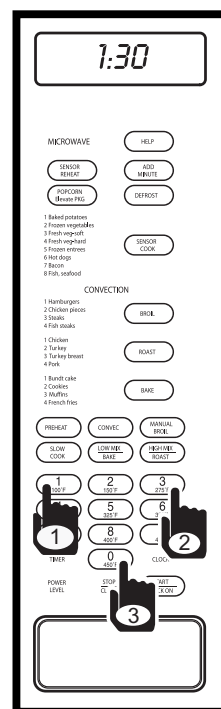

Figure 3-23.
2. Enter time of day by pressing the numbers in sequence. For example: If setting the time of 1:30, press the number 1 key, number 3 key, and number 0 key, display will flash “1:30 ” (See Figure 3-23).